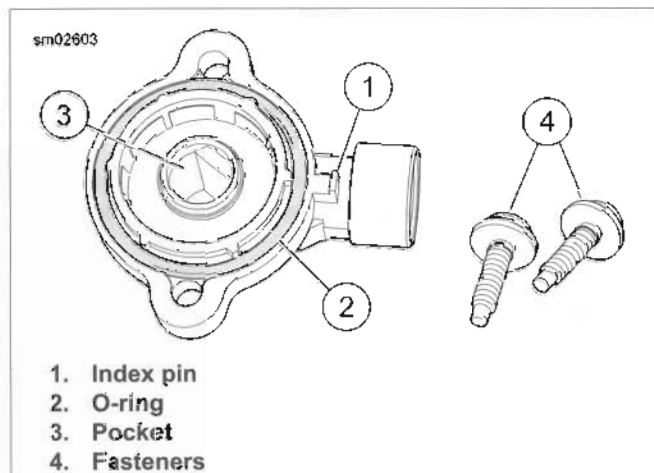

Figure 4-14. Throttle Position Sensor Installation
1. See Figure 4-14. Replace O-ring (2) if necessary.
2. Fit pocket (3) of throttle position sensor over throttle shaft while engaging index pin (1) with hole on machined flange of induction module.
3. Install two new fasteners (4) to fasten throttle position sensor to induction module. Tighten to 18 in-lbs (2.0 Nm).